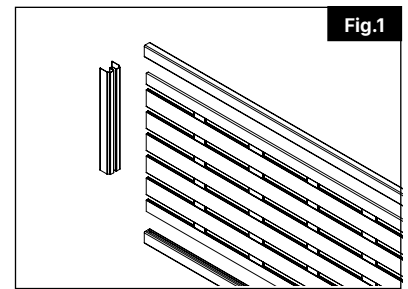

Fig.1
Set first post in desired location and mark all four screw hole locations on surface mounting to. Set post aside and pre-drill the four locations (Fig. 1). Using appropriate fasteners, mount your first post using your choice of $\frac{3}{8}$ " hardware. (Fig. 2).
Install the bottom rail to help with alignment of the second post (Fig. 1).
1. Dig first post hole about 8" in diameter and down to your specified frost line. Insert filler/gravel into the bottom of both holes. Then, set first post in post hole (Fig. 1).